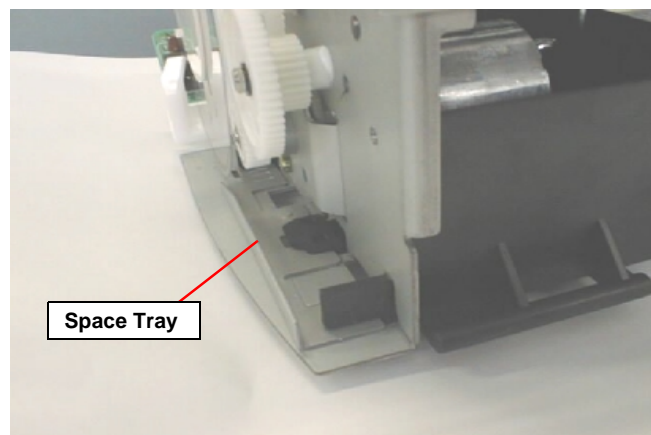

Figure 4-11. Installing the Spacer Tray
1. When installing the Waste Ink Absorber Tray Assembly, make sure to fix it with the Spacer Tray in the left side of the printer mechanism. Refer to the Figure 4-11.